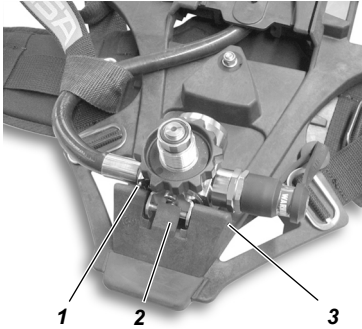
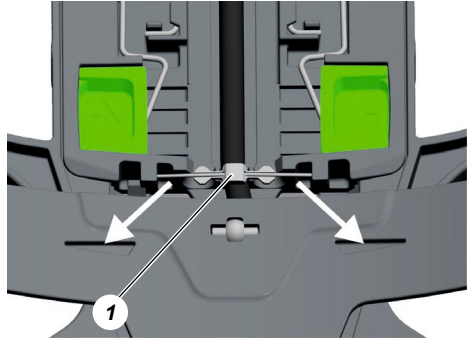

Fig. 19 Remove pressure reducer
Fig. 20 Remove line
- (4) Slide shoulder pads to lowest position in the lateral guide slots of the slide back plate, tilt the buttons outwards a little and take pads out of guide slots.
- (5) Unbutton shoulder pads and hip belt from back plate.
- (6) Press retaining pin (→ Fig. 20) of the single line downwards at an angle and remove.
- (7) Do the same on the other side of the back plate.
- (8) Remove single line from the guide on the back plate.
- (9) Push out the spindle (3) in the pressure reducer holder (→ Fig. 19).
- (10) Remove pressure reducer from the back plate, **do not** push up the stop spring (2).